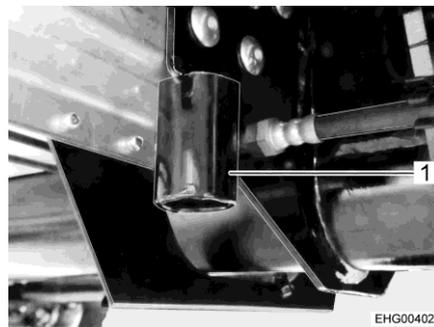

Fig. 158 Holder for vehicle jack
- ▷ Use the vehicle jack holders (Fig. 158,1) underneath the axle support (in front of the axle tube) to attach the lifting platform.